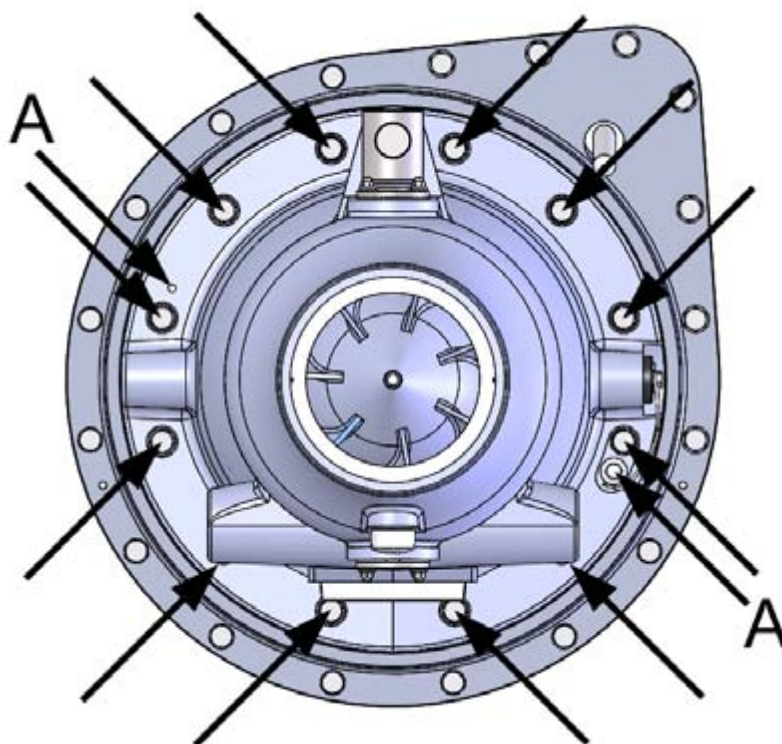

Figure 73. Stator fastening screws
3. Open the stator fastening screws (12 pcs, figure 73).
Make use of the stator extraction holes (2 pcs, figure 73, point A). The second extraction hole is located under the stator anode lead.